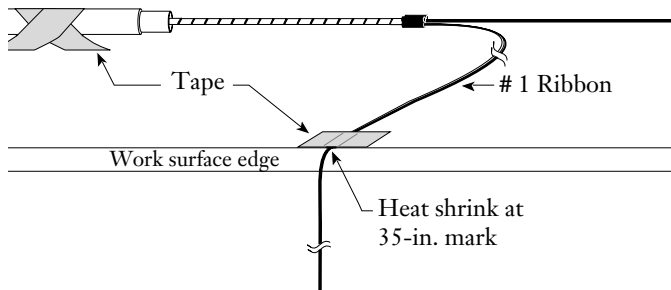

Figure 7
**6.2** Starting with the first ribbon, tape it down so that the heat shrink at the 35-inch mark is positioned at the work surface edge (Figure 7).